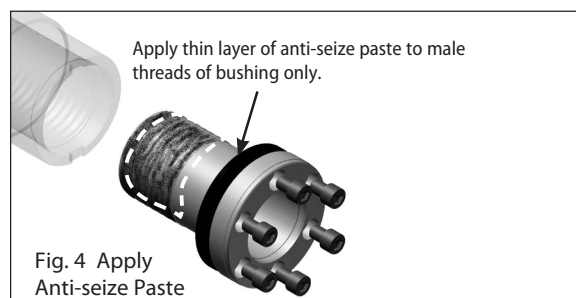

Fig. 4 Apply Anti-seize Paste
**Step 4** – Apply a thin layer of anti-seize paste **to the male threads of the Taper-Grip® Bushing only** (see Fig.4). Based on tests, Sumitomo recommends Bostik Never-Seez Regular Grade or equivalent. Ensure that anti-seize paste does not enter the Taper-Grip® Bushing bore.